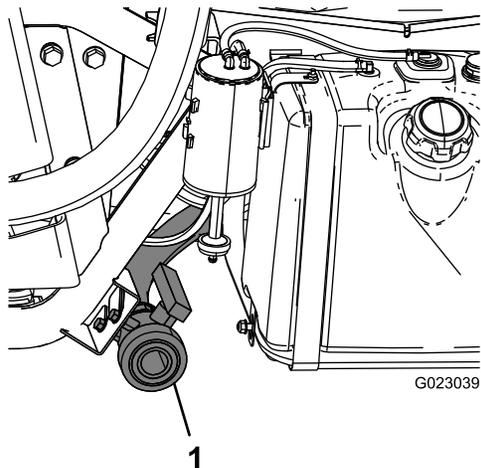

Figure 15
2. Locate the tank drain valve on the left side of the machine (Figure 15).
4. Open the valve to drain any unused material from the tank and dispose of it according to local codes and the material manufacturer's instructions (Figure 15).
5. When the tank has drained completely, close the drain valve and install the valve onto the bracket (Figure 15).